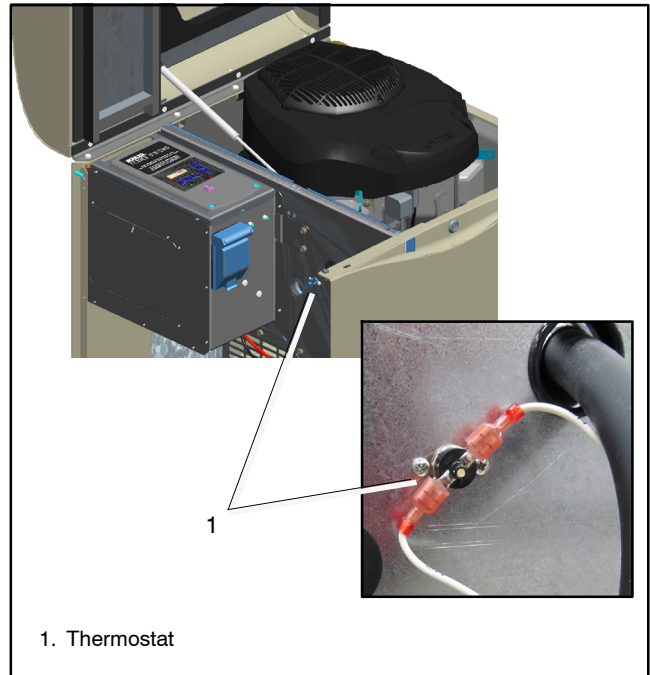

Figure 2-4 Thermostat Location
3. Press the button on the thermostat to reset it. See Figure 2-4 for the thermostat location.